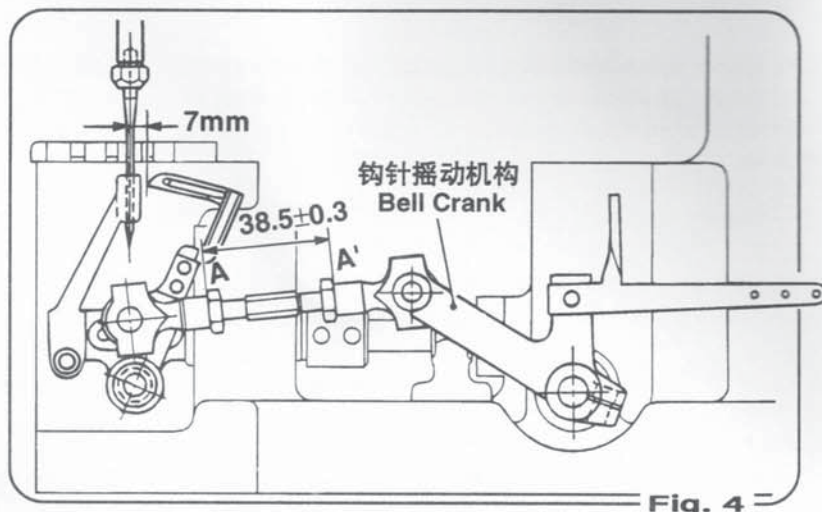
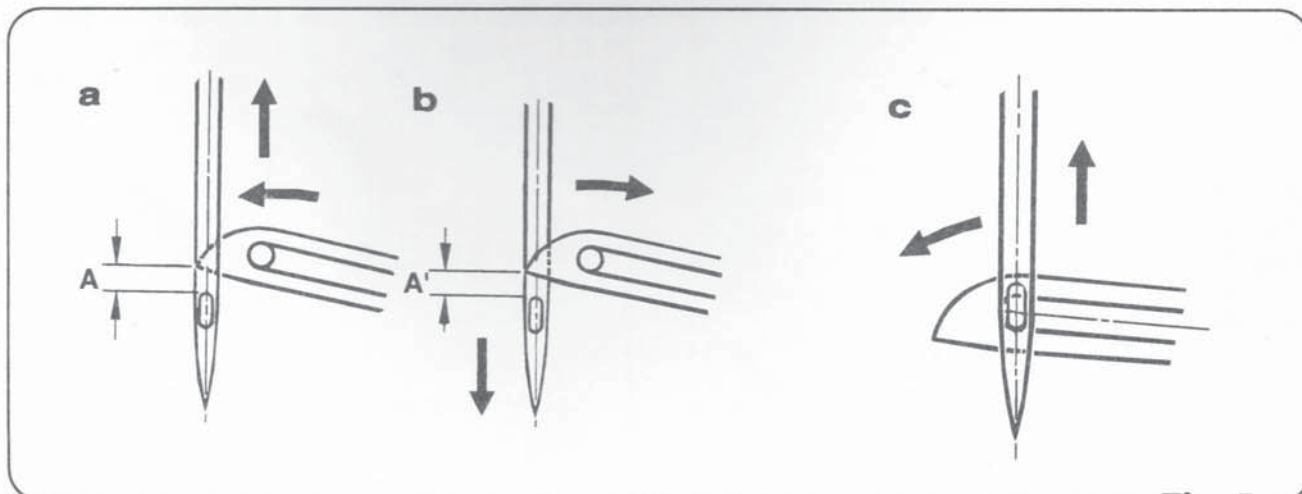
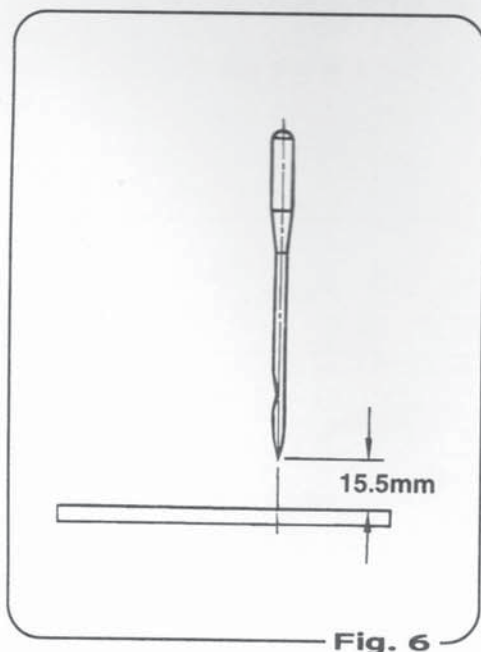

Fig. 4
Fig. 5
Fig. 6
Presser foot pressure must be adjusted according to the material of bag and thickness. Check the reverse side of seams. The pressure is too strong if seams show a sign of scratches by feed dog teeth, or the actual stitch length is shorter than the preset feed rate of feed dog teeth. In this case, unscrew plate spring adjust screw (102171), Figure 4, after loosening nut (5/16N24301). Be sure to tighten the nut after the adjustment. If the pressure is too weak, seams do not form a straight line, or the stitch length is irregular. In this case, increase the pressure by screwing the plate spring adjust screw. Decrease the pressure when closing jute and other heavy bag material, and increase it when closing PP woven cloth and other light bag material. Your machine is adjusted for 3-ply kraft paper bags at the factory.
- a) Turn the pulley in the forward direction and adjust the bell crank so that the end of the looper is 7mm away from the needle center when the needle is in the most retracted position, as shown in (Fig.4). The distance between the nut (outside) of Looper Connecting Rod must be 38.5 ± 0.3 mm. (Fig.4)
Needle 5 and looper 1 movements are correctly timed if distance (A and A' of Fig.4) between Looper point and Needle hole when Looper points gets in line with left-side edge of Needle 5 is the same as Looper 1 passes Needle in forward and backward movements. $A=A' \pm 0.3$ mm is allowable. Adjust by lightly tapping the looper Drive Lever. Looper eyelet should overlap with lower part of oval hole of Needle, as shown in (Fig.5-c.) as looper goes forward. Adjustment can also be done by loosening the set screw of the needle bar connecting stud and adjusting the height of the needle bar so that the end of the needle is 15.5mm from the upper surface of the throat plate as shown in (Fig.6).
预先保持距离(A-A'), 相隔 $38.5\text{mm} \pm 0.3\text{mm}$ 以内, 而如图所示(图4)装球连杆(#063072AA). 钩针最后退时, 针中心离钩针距离应相隔7mm. 调整钩针摇动机构后, 请无忘拧紧. 注意钩针摇动曲轴不要松动.
由于调整钩针尖头应准缝针孔中心线上. 请将钩针前进或后退而调整位置. 钩针和缝针交叉时候, 从钩针尖头到缝针穴的距离, 如图所示(图5-a/b), 须要确保一定的(A=A')尺寸. 尚有 $A=A' \pm 0.3\text{mm}$ 容许限度.
* A=A' 尺寸确认后(图5-C), 为了钩针穴下面和针穴下面要合在一起, 请将针棒抱合(#032171)放松螺钉而调整针棒高度.
* 预先如图所示(图6), 针上升到最高位置时, 针至针板距是15.5mm, 将针棒高在那地点定下, 以后调整工作进行.